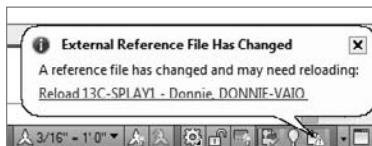

FIGURE 13.20 The balloon message indicating the xref has changed
6. Switch to the 13A-FPLAY1 file. A balloon message appears at the bottom of the AutoCAD window (see Figure 13.20), pointing to the Manage Xrefs icon in the tool tray.